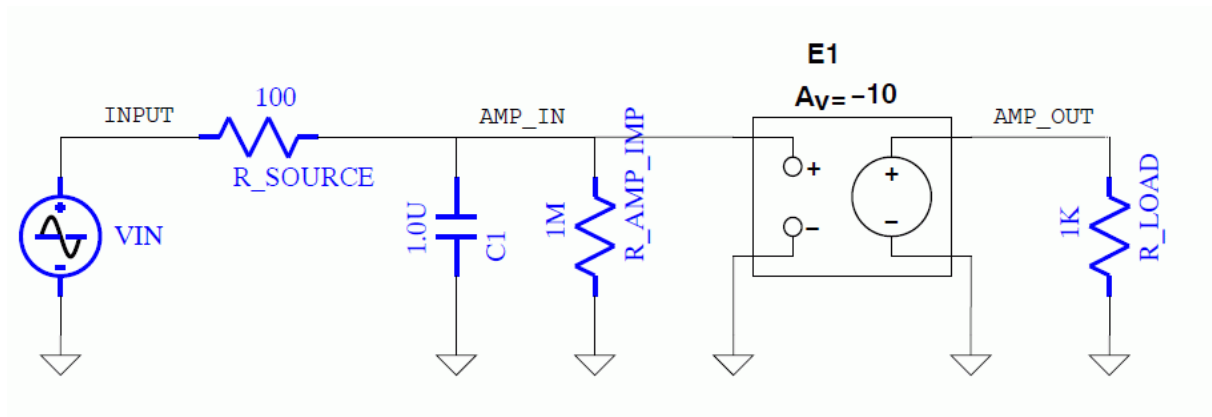

Figure 23.1: Example Circuit 1
Although different SPICE-based simulators may include various enhancements to the basic version from the University of California at Berkeley, most use a similar approach in describing circuits. This approach involves capturing the information present in a circuit schematic in the form of a text file that follows a defined format. This format requires the assignment of alphanumeric identifiers to each circuit node, the assignment of component identifiers to each circuit device, and the definition of the significant parameters for each device. For example, the circuit description below shows the equivalent input file for the circuit shown in Figure 23.1.
3.1.2.2.2 Subcircuits In some applications, describing a device by imbedding the required elements in the main circuit file, as is done for the amplifier in Figure 23.1, is not desirable. A hierarchical approach may be taken by using subcircuits. An example of a subcircuit statement is shown in the second circuit file: